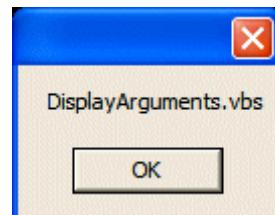

Figure 8-17. Displaying the second argument.
- 10) Click the **OK** button to dismiss this *MsgBox()*. The script now displays the second argument as illustrated in Figure 8-17.